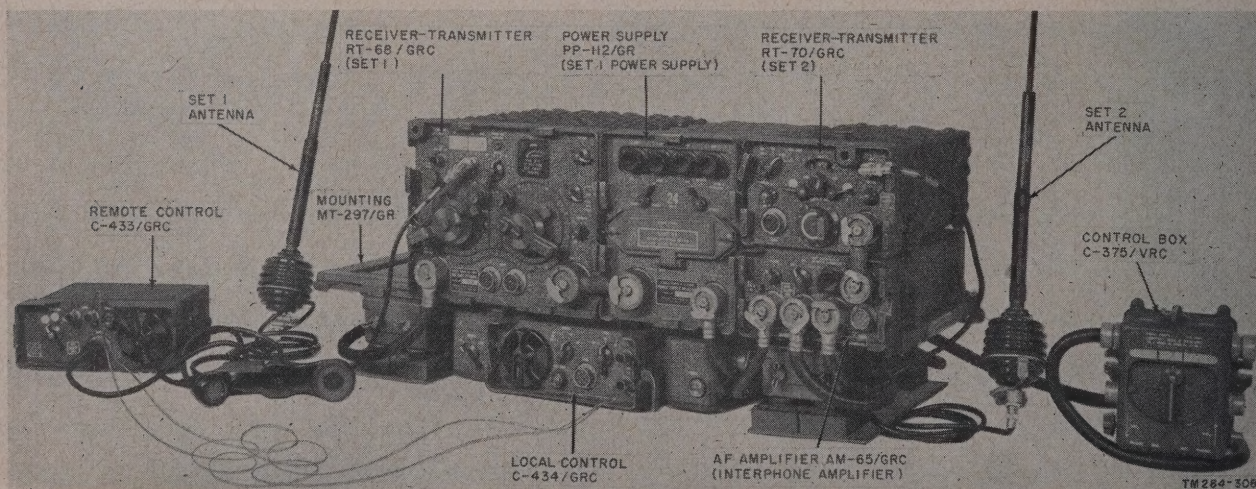

Figure 3. Radio Set AN/GRC-8 less Control C-435/GRC.
- (1) *24-Volt System.* Figure 3 shows the major components of Radio Set AN/GRC-8 interconnected to simulate an operating installation. Receiver-Transmitter RT-68/GRC is used as Set 1; Power Supply PP-112/GR furnishes the operating voltages for Set 1; Receiver-Transmitter RT-70/GRC is Set 2; and AF Amplifier AM-65/GRC is the interphone amplifier. Operating voltages for
Set 2 and the amplifier are furnished by a plug-in power-supply unit installed within the amplifier. The installation shown is a 24-volt system which utilizes Power Supply PP-112/GR as the Set 1 power supply and Power Supply PP-282/GRC as the Set 2 power supply. All of the above-mentioned units are secured on Mounting MT-297/GR which normally is bolted to a vehicular mounting surface. The mounting also accommodates one of the control units (either Local Control C-434/GRC (fig. 3.), or Control C-435/GRC (fig. 1)) as a plug-in unit. From the mounting, connections are made to the vehicular battery, to the major units supported on the mounting, and to one or more Control Boxes C-375/VRC. Connection is made from the local control unit to Remote Control C-533/GRC by interconnecting telephone wires. Connections to the antenna systems are made directly from the panels of the Set 1 and Set 2 receiver-transmitters (fig. 33).
f. In vehicular installations, Set 1 is installed on Mounting MT-297/GR (fig. 3) and is energized by a vehicular power supply such as Power Supply PP-112/GR. Field operation of Receiver-Transmitter RT-66/GRC, RT-67/GRC, or RT-68/GRC (ch. 6) is possible through use of a hand generator alone or a hand generator and a battery box.
c. Structurally, the Set 2 receiver-transmitter is a panel-chassis assembly contained in a metal case. Mounting feet on the bottom of the receiver-transmitter fit in the recesses on top of AF Amplifier AM-65/GRC. Snap catches are provided on the sides of the Set 2 receiver-transmitter to secure it when placed on top of the amplifier (fig. 3). When the case is removed (figs. 76, 77, and 78) the r-f and i-f chassis are exposed. All tubes are mounted on these vertical chassis.
c. Structurally, the interphone amplifier is a panel-chassis assembly inclosed in a metal case. Channel rails on the bottom of the case permit the unit to be installed on Mounting MT-297/GR. Hooks on the case engage the snap catches of Receiver-Transmitter RT-70/GRC which rests on top of the amplifier in a vehicular installation (fig. 3). When the case is removed (fig. 74), all replaceable parts are accessible.